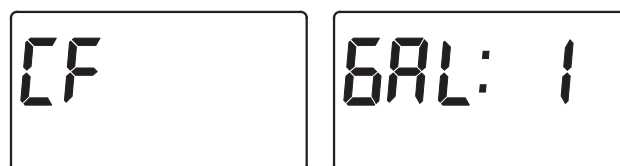
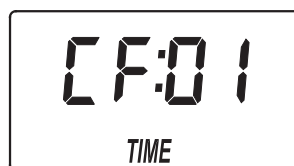

FIG. 30
FIG. 31
4. **CHEMICAL FEEDER TRIP VOLUME:** If you have set the auxiliary output control to CF (Chemical Feeder), you will need to set the volume of water which must flow past the turbine* before the auxiliary output is turned on. With the alternating screens in Fig. 30 shown, use the Δ UP or ∇ DOWN buttons to set the trip volume, in gallons. Then press the SELECT button to display the screen shown in Fig. 31.